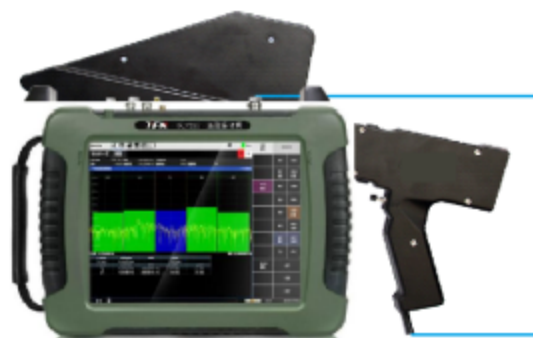

Figure 7.26 Connecting diagram of handheld DF antenna and RMT series spectrometer
- Step 1. Connect the handheld DF antenna to the RF input port of RMT series spectrometer, connect the GPS antenna, and test after successful GPS synchronization, as shown in Figure 7.26: